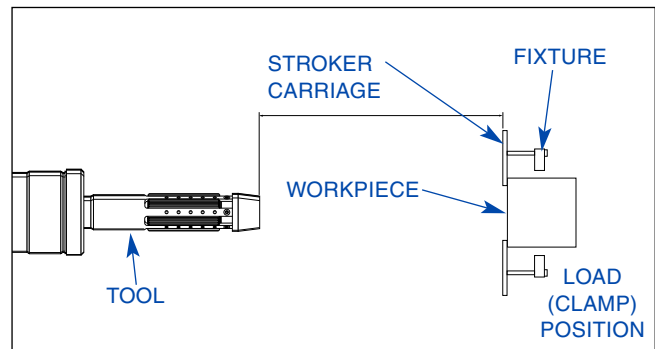

FIGURE 3-7, Load Position
- Use F2 (OUT) and F3 (IN) along with Palm Buttons, to move Carriage Load Position (see Figure 3-7).